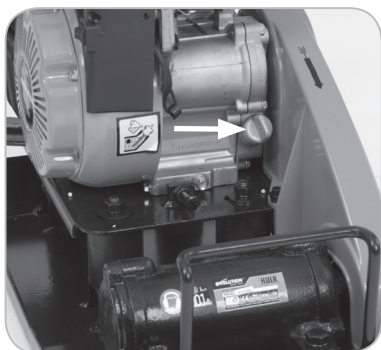

Fig. 11
- Remove the oil filler cap. (**Fig. 11**)